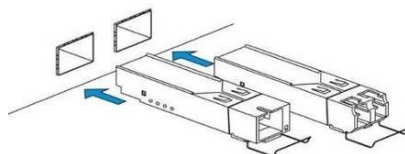

Figure 48 – SFP transceivers installation
Step 1. Insert an SFP transceiver into a slot. SFP transceivers are set as shown in Figure 48.